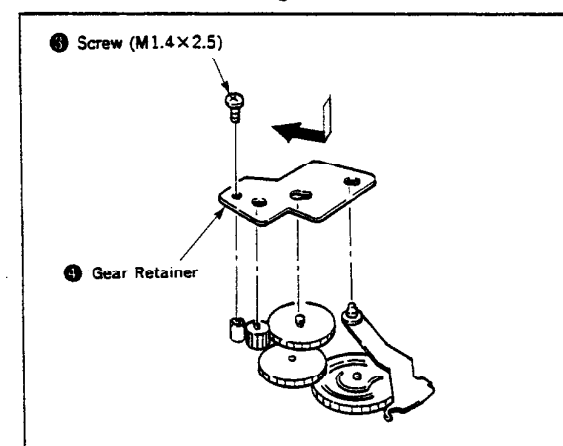

Fig. 36
- 9) Put the gear retainer ⑦ in place, slide it in an arrow direction and fix it with the screw ⑥. (Fig. 36)